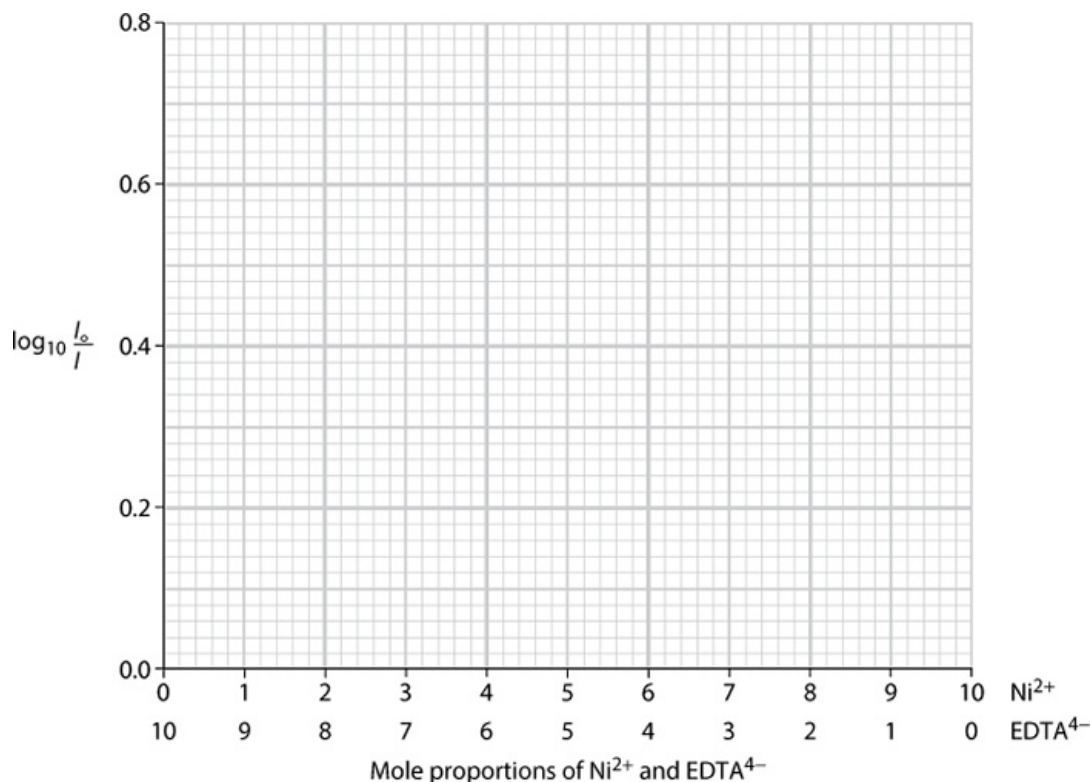

Figure 15.2: A graph of $\log_{10} \frac{I_0}{I}$ against the mole proportion of Ni^{2+} ions and EDTA^{4-} ions in the solution
- b Using Figure 15.2, plot a graph of $\log_{10} \frac{I_0}{I}$ against the mole proportion of Ni^{2+} ions and EDTA^{4-} ions in the solution.